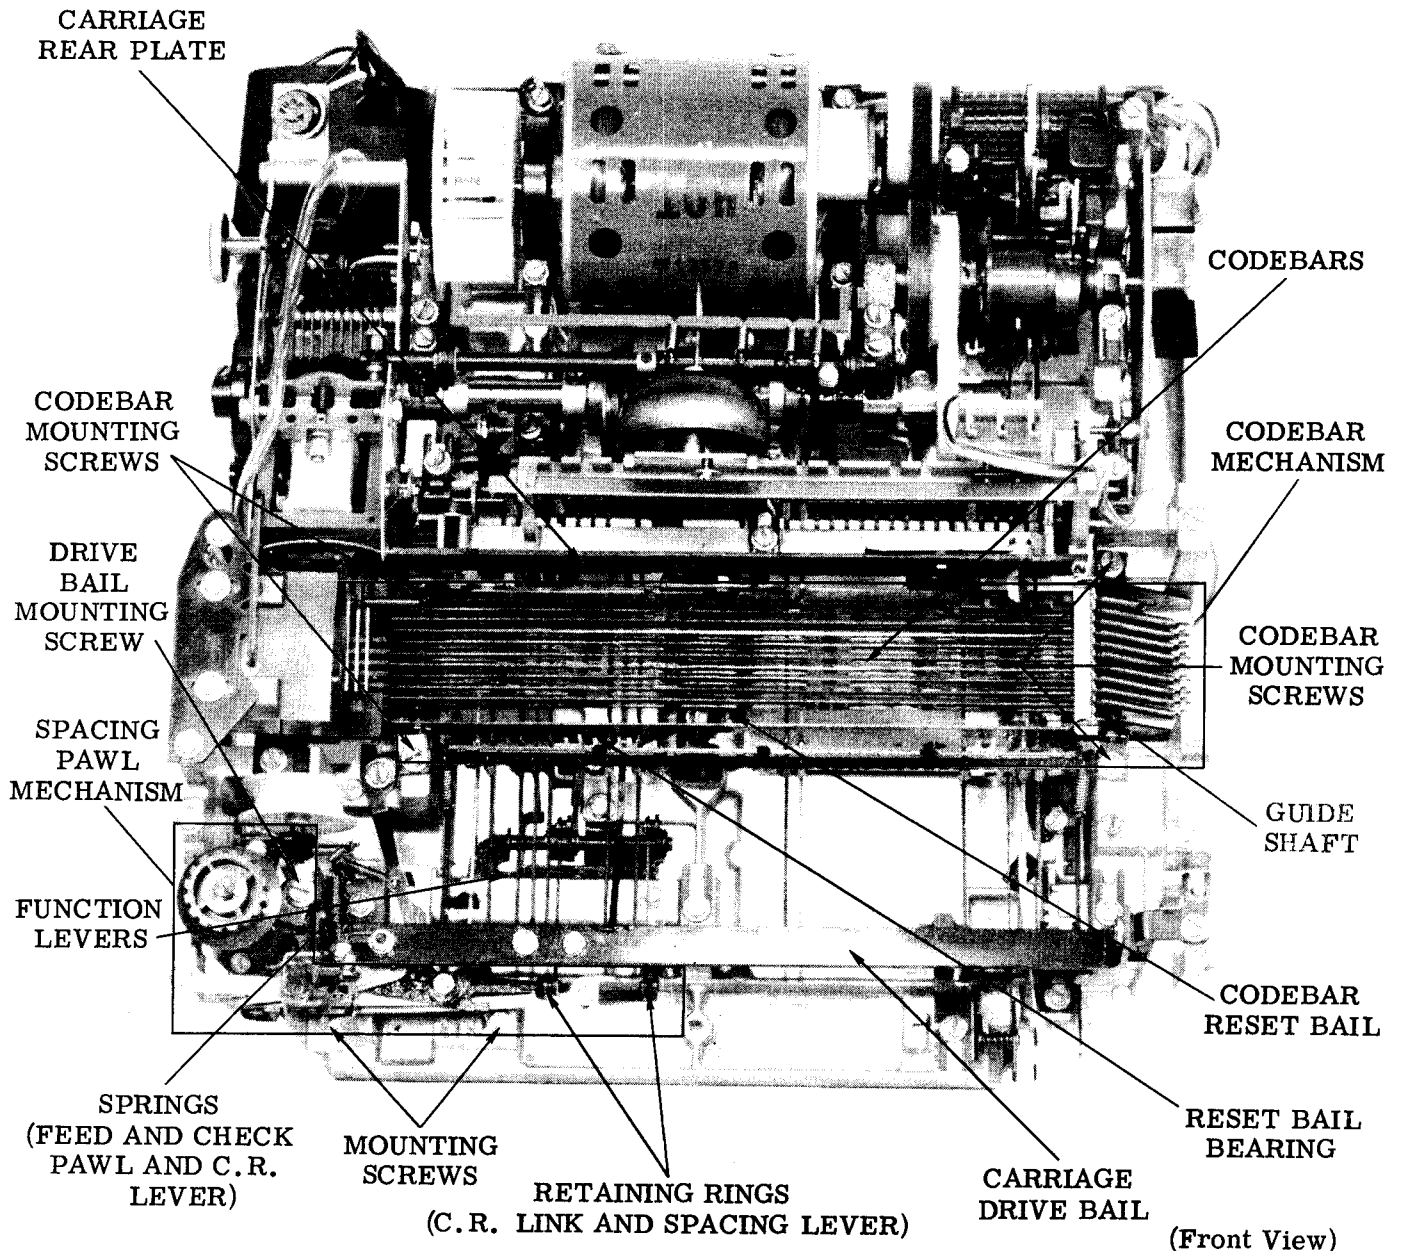

Figure 2 - Typing Unit (Carriage and Platen Removed)
2.05 To remove codebar reset bail (Figures 2 and 3), proceed as follows.
2.06 To remove spacing pawl mechanism (Figure 2), proceed as follows.